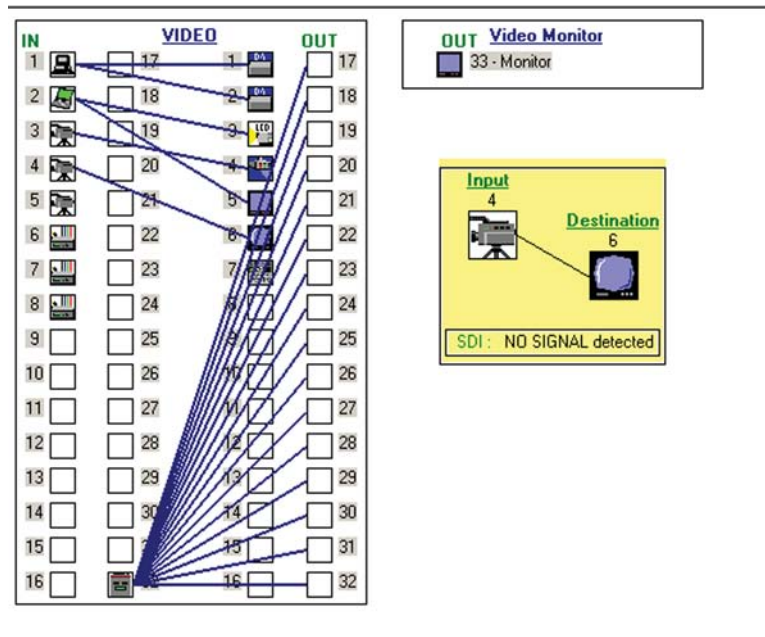

Figure 5-8 — Matrix window section with pop-up information on input 4
- **To view information on a specific input or output device**, position the cursor over that device in the Matrix window. A pop-up window opens, showing the input and output numbers, names (if captions were specified), details on the connections to that device, and the frequency of the video signal being sent to or from it (see figure 5-8 on the next page).